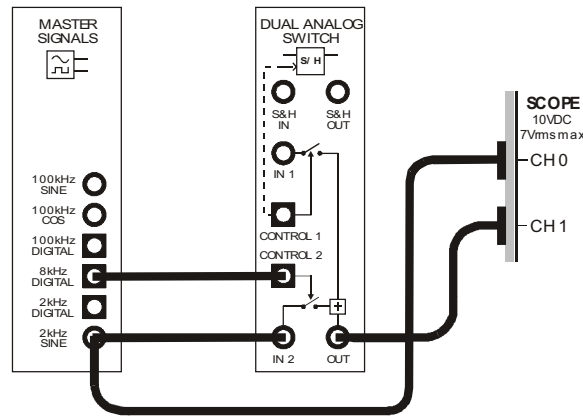

Figure 2
8. Connect the set-up shown in Figure 2 below.